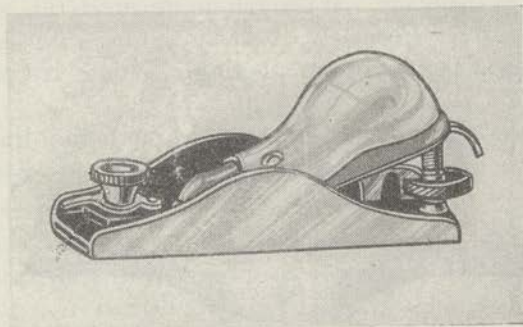

FIGURE 41.—Block plane.
(4) The block plane (fig. 41), from $3\frac{1}{2}$ to $7\frac{1}{2}$ inches long, is the smallest plane made. It can be held in one hand for planing across